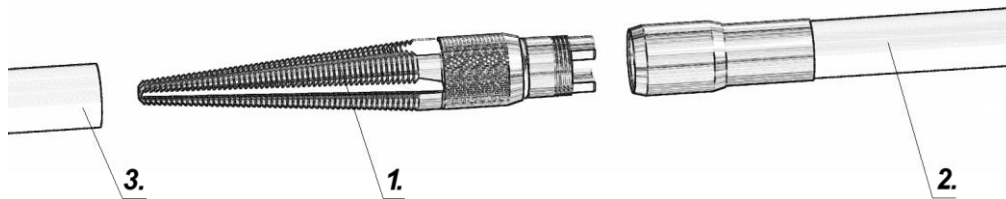

Figure 9.8.1
For installing PE, PVC pipes (manually) the Insert nipple (1) could be used (Figure 9.8.1.). This method can be used for pipes of diameter  $\varnothing 25 \div \varnothing 55$  mm.